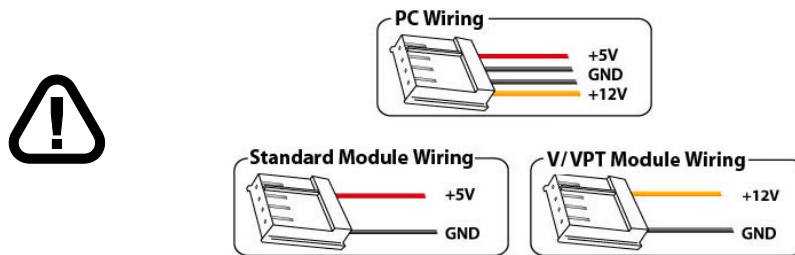

Figure 13: PC vs Matrix Orbital Display Module Wiring
- First, you will want to make sure that you are using the correct power connector. Standard floppy drive power cables from your PC power supply may fit on the Power/Data Connector however they do not have the correct pin out as can be seen in *figure 13 on page 7*. Matrix Orbital supplies power cable adapters for connecting to a PC, which can be found in the *Accessories Section on page 2*.